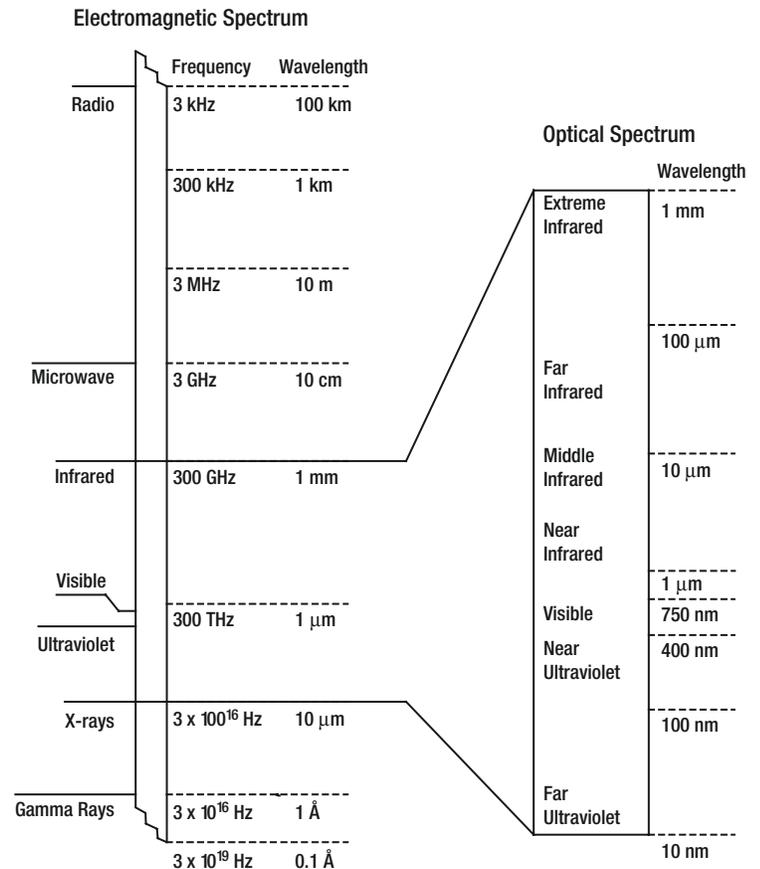

Figure 1: Electromagnetic spectrum
Light is a pure form of energy. As we think of it, or perhaps more correctly, see it, light is only a small portion of the electromagnetic spectrum (Figure 1). The somewhat more expansive optical spectrum includes the invisible infrared (IR) and ultraviolet (UV), which were discovered sometime after Newton's initial experiments that demonstrated that white light can be separated into light of several colors. Like many other important scientific breakthroughs, Newton's first indication that white light was a composition of all other colors was by chance.